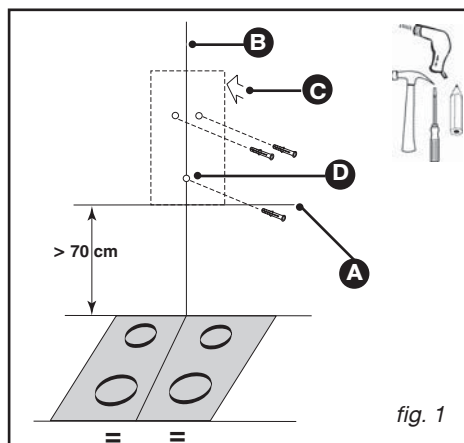

fig. 1
– Draw a horizontal line 70 cm minimum from the cooker top (A/fig. 1).
– Draw a vertical line (B/fig. 1) on the wall that is centred over the cooker top and that extends from the horizontal line drawn in the previous step (A) to the ceiling.
– Place the drilling template (C/fig. 1) on the wall. In the case of a hollow wall, use suitable wall plugs and screws.
– Fit the anti-lifting screw (D/fig. 1)
– Using the two screws (fig. 1), attach the metal chimney bracket against the wall, flush with the ceiling for support.